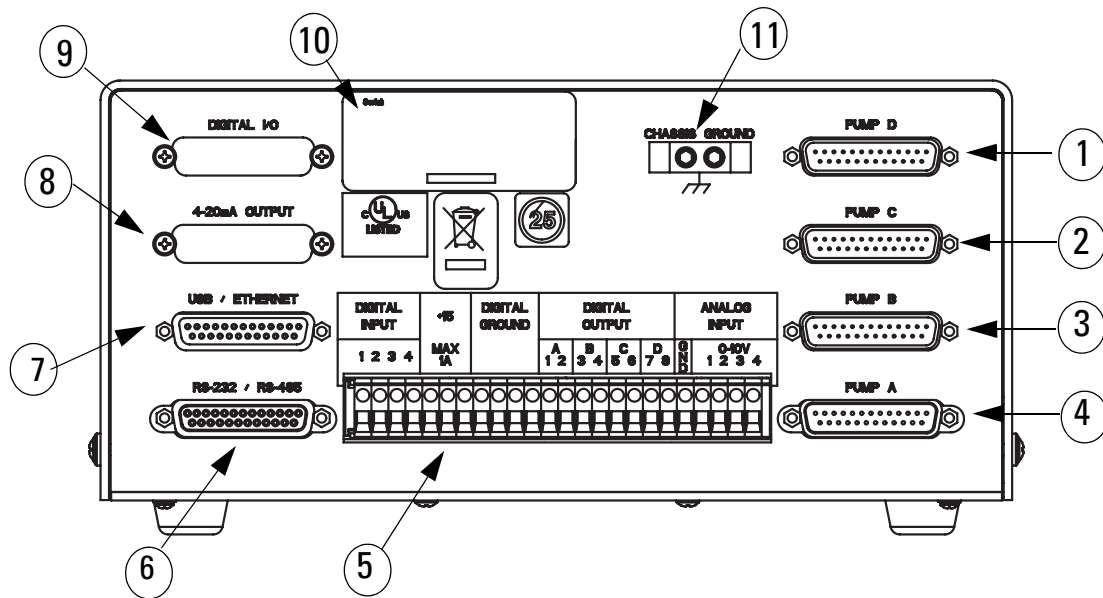

Figure 1-6 Pump controller rear panel connectors
The rear panel of the pump controller contains several input and output connectors, explained in Table 1-12, and shown in Figure 1-6.
| Item No. on Figure 1-6 | Connector | Description |
2. Connect the control cable (which originates from the first or only pump rear panel) to the PUMP A connector on the rear panel of the controller (Figure 1-6), and tighten the thumbscrews. This cable must be plugged into the PUMP A connector.